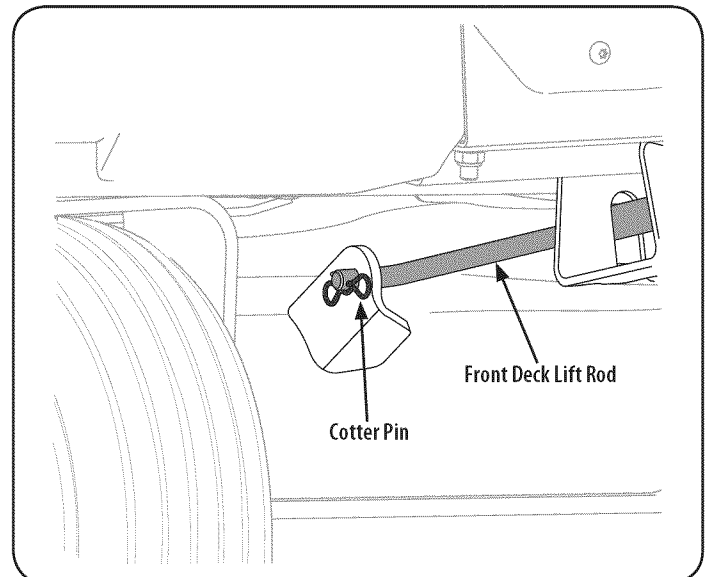

Figure 31
7. Pull the cotter pin out of the front deck lift rod securing it to the deck. See Figure 31. Slide the deck lift rod out of the front hanger bracket.
6. Reinstall the front deck lift rod and secure in place with the cotter pin. Refer to Figure 31.